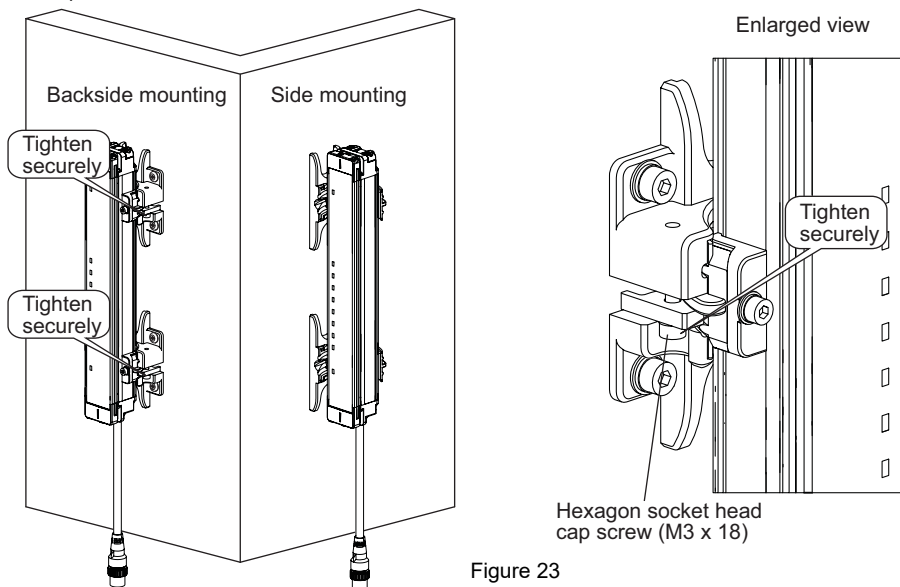

Figure 23
- Tighten the lightly tightened the hexagon socket head cap screws (M3 x 18) of Intermediate Bracket (3) to prevent rotation. (Figure 23)